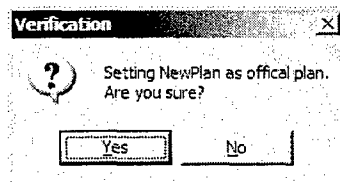

Figure 34. Verify Change in Official Plan
5. Verify that you want to set a new official plan (see Figure 34). Changes to the SRB History table will take several minutes.